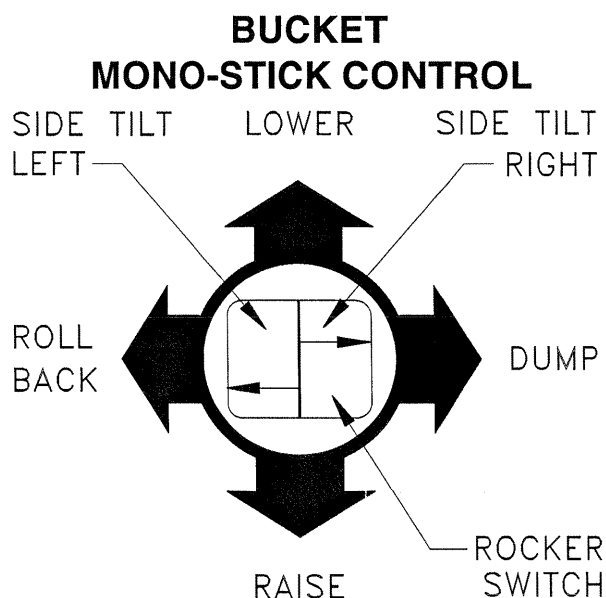

Fig. 3-13 Implement Control Handle
32. Hoist & Dump Control See Fig. 3-13